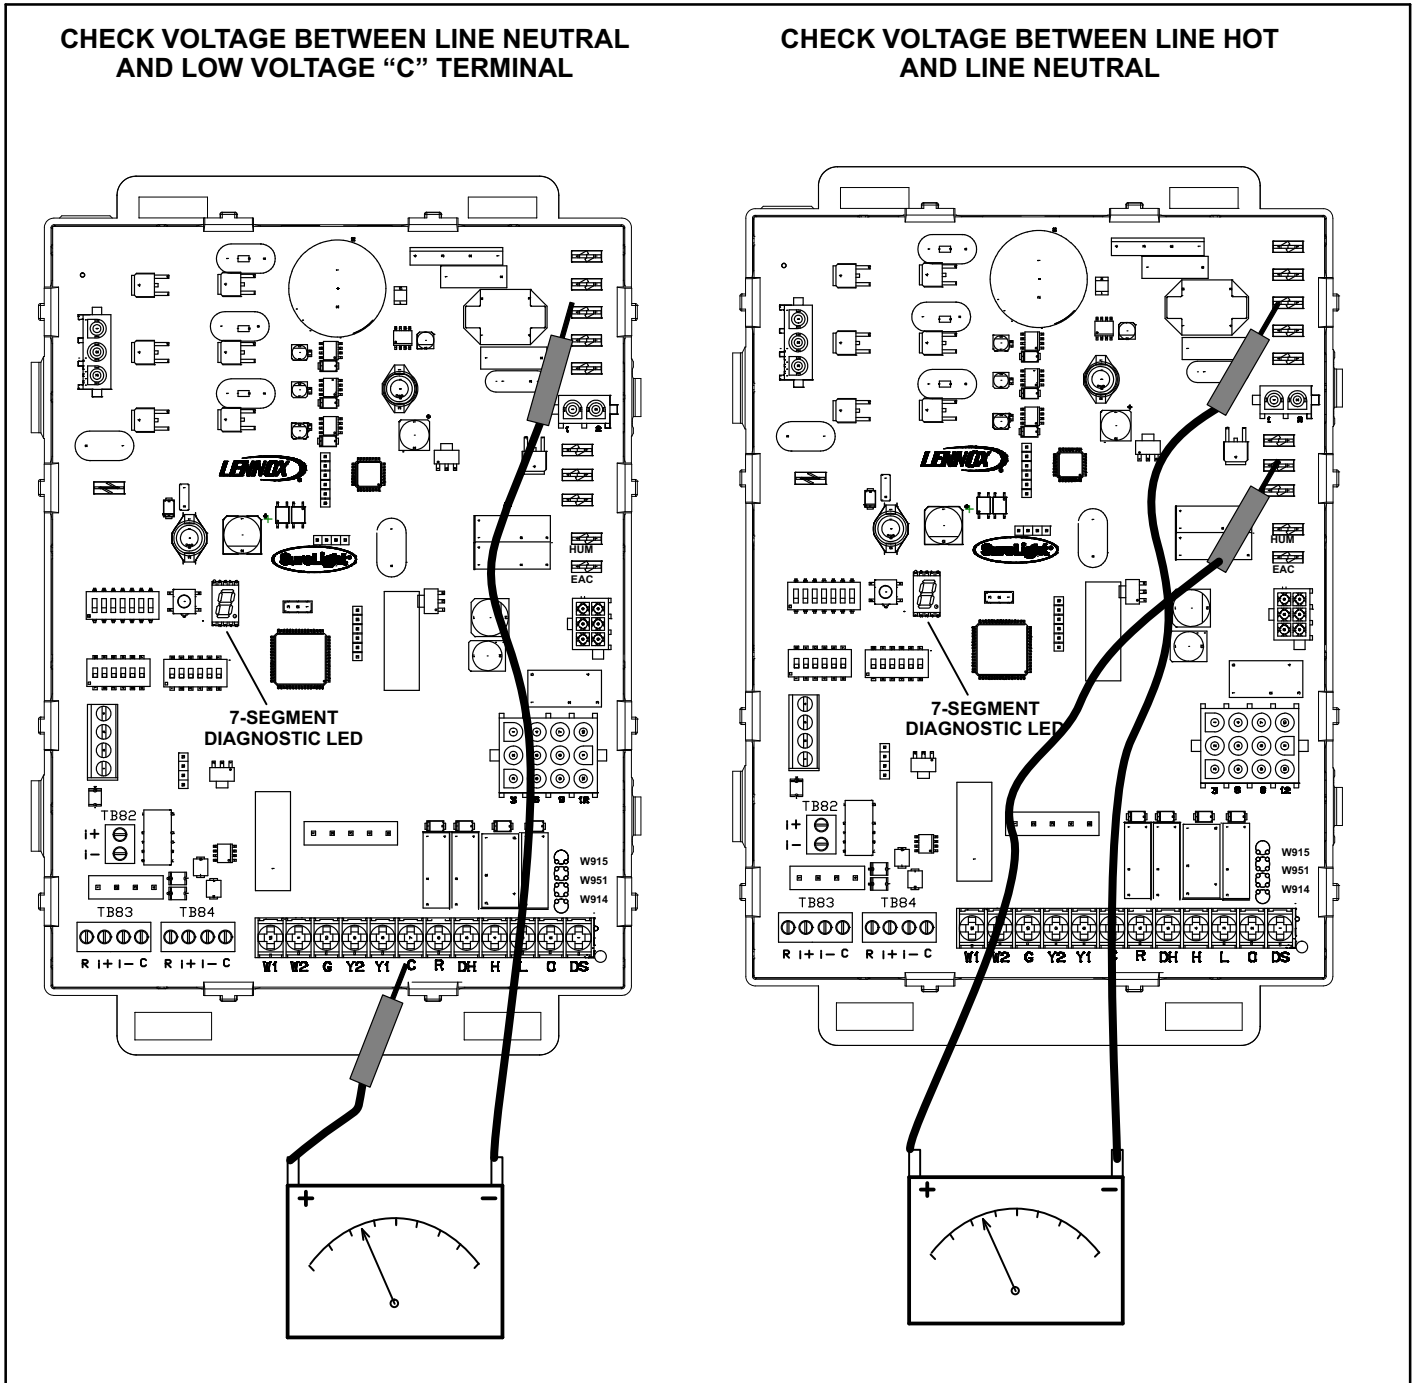

FIGURE 53
- 1 - Measure the AC voltage between Line Neutral (spade terminals) and "C" terminal (low voltage terminal block) on the integrated control. See figure 53. A wide variation in the voltage between Line Neutral and "C" as a function of load indicates a poor or partial ground. Compare the readings to the table below. If the read-
- 2 - In addition, measure the AC voltage from Line Hot to Line Neutral (spade terminals) on the integrated control. See figure 53. This voltage should be in the range of 97 to 132 Vac